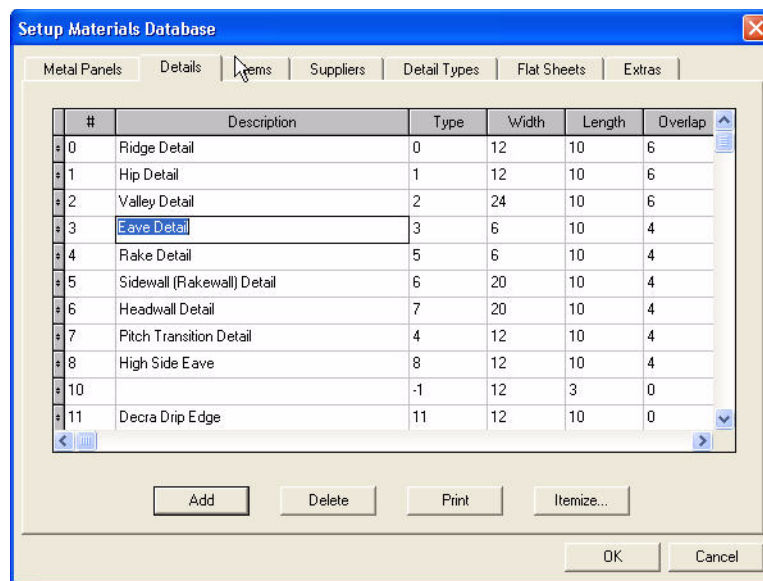

Figure 4–7 The Details database
1. Click **Details**, then select a detail that you want to itemize. For this lesson, select **Eave Detail**, as in Figure 4–7.
A window appears, listing all items in the **Items** database, as in Figure 4–8.